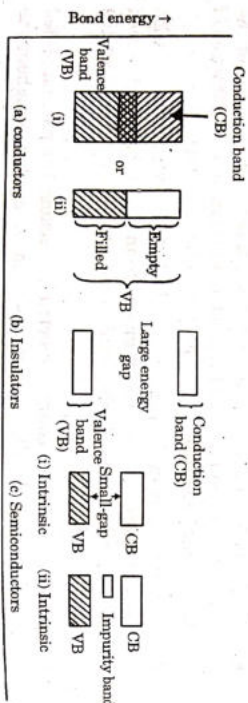

Fig. 1.15.1. Energy band in (A) Conductors (B) Insulators and (C) Semi-conductor.
- b. Intrinsic semiconductors (like Si or Ge) are having small energy gap between the filled valence band (VB) and empty conduction band (CB) as shown in Fig. 1.15.1, sufficient to promote an electron from VB to CB.
- f. Doping means treatment of Si and Ge (typically semiconductors) with impurity atoms of Group (III) and Group (V) giving respectively *p*-type and *n*-type extrinsic semiconductors.